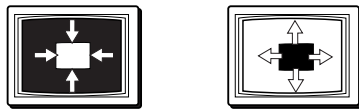

Figure 3-35 — Square wipe effects
- A **square wipe** causes the preview image to appear to unroll over the program image in one of two transitions (figure 3-35):